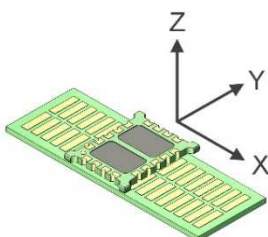
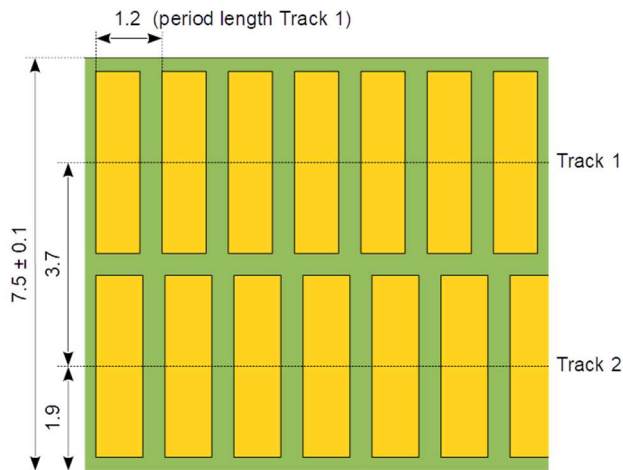

Fig. 1 Coordinate system XYZ.
Fig. 4 Linear scale with different period lengths (drawing not to scale). Information on Track 1 and Track 2 in Table 5.
The AP5603L absolute encoder kit consists of an encoder and a linear scale (Fig. 1). The encoder consists of two integrated circuits in a PCB housing. Each circuit provides an SSI output (Fig. 2). The linear scale is a PCB with passive copper strips arranged in 2 tracks with an unequal number of periods N1 and N2 (Fig. 4 and Table 5). The absolute position is calculated by subtracting the two SSI values. The algorithm for this calculation is available from POSIC.
- Airgap Distance between encoder and scale in Z-direction. See Fig. 1.
Track 1 (Fig 4) has period 1.2 mm and is absolute over N1 periods. Track 2 has N2 periods. The scale is made of FR4-material and can be cut to the desired length xxx mm. Complete scale: xxx = 538.